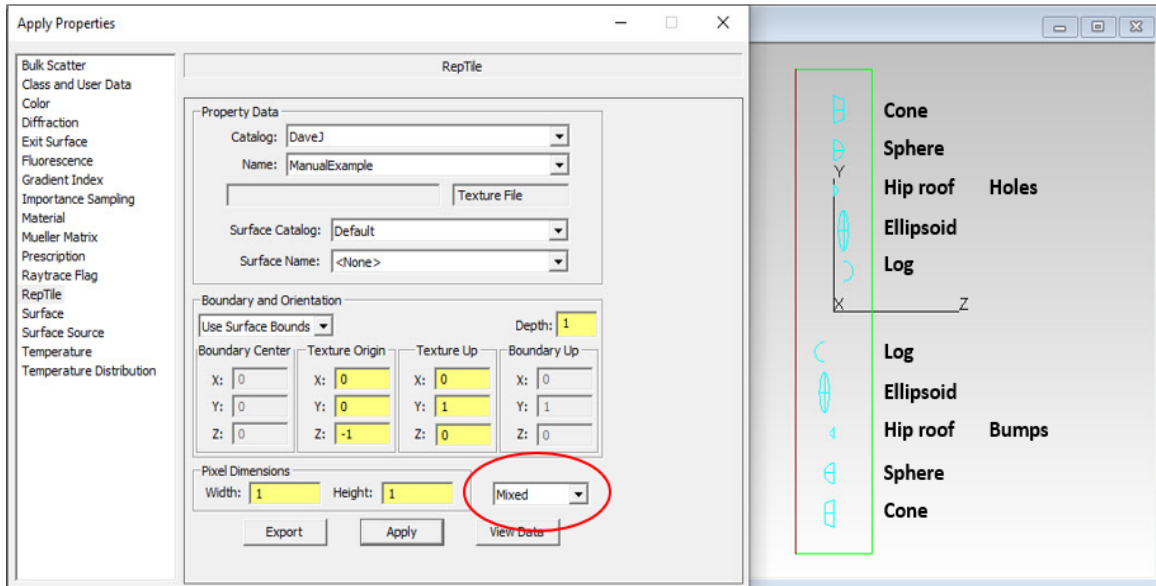

FIGURE 4.35 - Textured RepTile visualization showing the Mixed orientation for a RepTile property that originally contains Holes and Bumps.
- Figure 4.35: Mixed features, so the orientations are as specified in the Texture File,